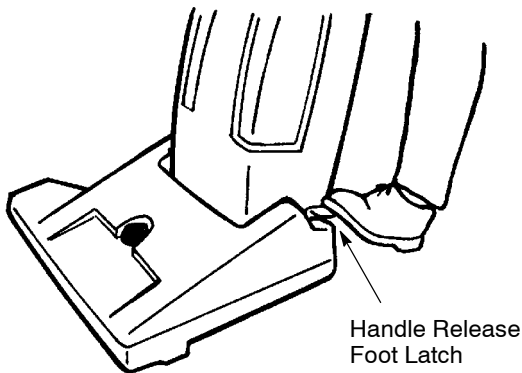

FIG. 2
2. Lower handle to operating position by depressing handle release foot latch (Figure 2).